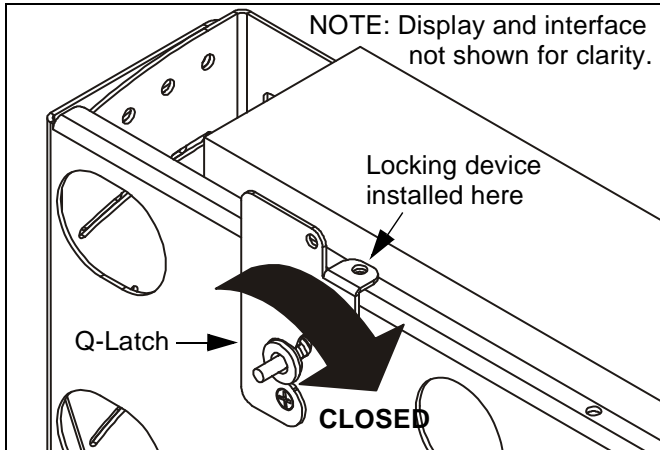

Figure 9: Close Q-Latch
4. Rotate Q-Latch to the CLOSED position (See Figure 9).